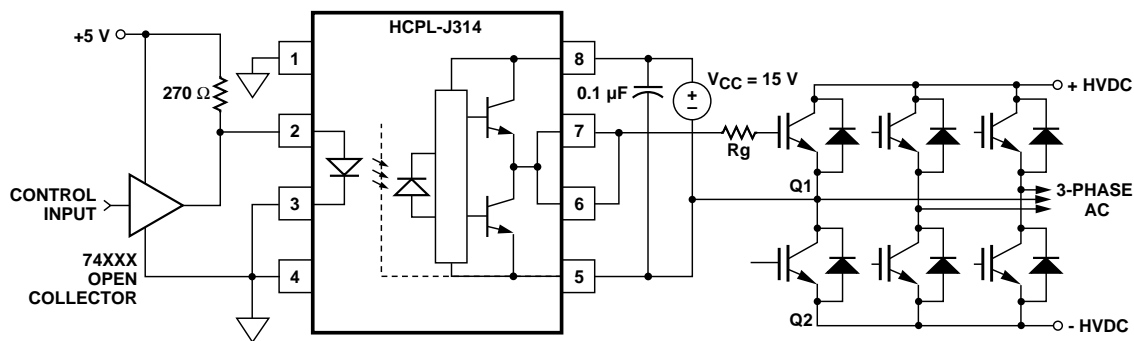
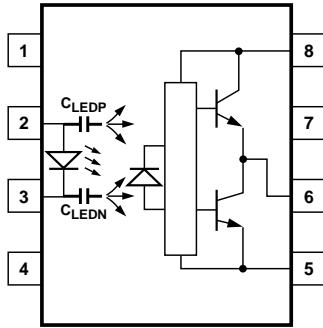
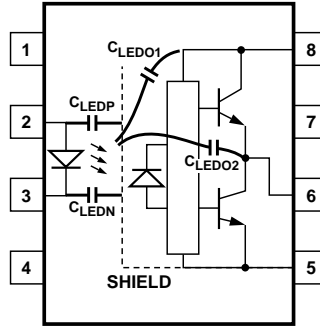

Figure 19. Recommended LED Drive and Application Circuit for HCPL-J314.
Figure 21. Optocoupler Input to Output Capacitance Model for Unshielded Optocouplers.
Figure 22. Optocoupler Input to Output Capacitance Model for Shielded Optocouplers.
eliminate the need for negative IGBT gate drive in many applications as shown in Figure 19. Care should be taken with such a PC board design to avoid routing the IGBT collector or emitter traces close to the HCPL-J314 input as this can result in unwanted coupling of transient signals into the input of HCPL-J314 and degrade performance. (If the IGBT
**Step 1:** Calculate  $R_g$  minimum from the  $I_{OL}$  peak specification. The IGBT and  $R_g$  in Figure 19 can be analyzed as a simple RC circuit with a voltage supplied by the HCPL-J314.
where  $K_{ICC} \cdot Q_g \cdot f$  is the increase in  $I_{CC}$  due to switching and  $K_{ICC}$  is a constant of 0.001 mA/(nC\*kHz). For the circuit in Figure 19 with  $I_F$  (worst case) = 10 mA,  $R_g = 32\ \Omega$ , Max Duty Cycle = 80%,  $Q_g = 100\text{ nC}$ ,  $f = 20\text{ kHz}$  and  $T_{AMAX} = 85^\circ\text{C}$ :
Without a detector shield, the dominant cause of optocoupler CMR failure is capacitive coupling from the input side of the optocoupler, through the package, to the detector IC as shown in Figure 21. The HCPL-J314 improves CMR performance by using a detector IC with an optically transparent Faraday shield, which diverts the capacitively coupled current away from the sensitive IC circuitry. However, this shield does not eliminate the capacitive coupling between the LED and optocoupler pins 5-8 as shown in Figure 22. This capacitive coupling causes perturbations in the LED current during common mode transients and becomes the major source of CMR failures for a shielded optocoupler. The main design objective of a high CMR LED drive circuit becomes keeping the LED in the proper state (on or off) during common mode transients. For example, the recommended application circuit (Figure 19), can achieve 10 kV/ $\mu\text{s}$  CMR while minimizing component complexity.
supplied by the LED, and it is not recommended for applications requiring ultra high CMRL performance. The alternative drive circuit which like the recommended application circuit (Figure 19), does achieve ultra high CMR performance by shunting the LED in the off state.